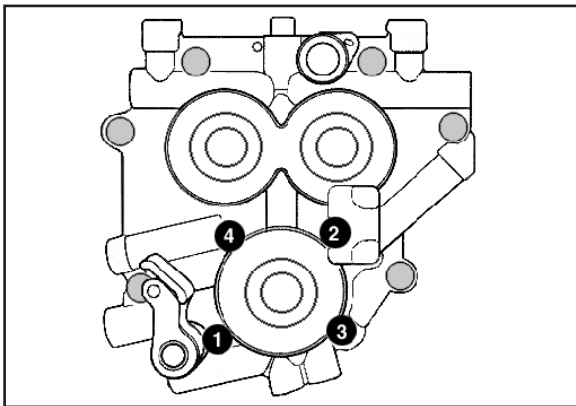

Figure 1
- K- Following sequence shown, alternately loosen and remove oil pump bolts. **See Figure 1 below left.**
- I- Install oil pump mounting bolts with a drop of Loctite® threadlock 242 or 243 (blue) according to procedure found in factory service manual: Gently bottom screws, then back them out ¼ turn. Center oil pump by rotating engine by hand while snugging down screws. Alternately tighten bolts to 95 in-lbs. torque in sequence shown. **See Figure 1 Page 5.** Before moving forward, verify that inner drive gears rotate freely and no binding is present.